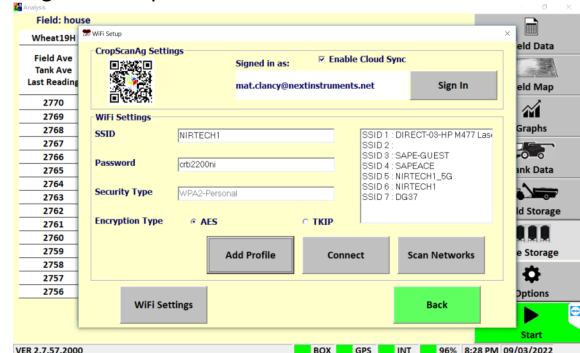

Figure 4.2. Setup—Wifi
- Press the Client Farm Field tick box as shown in figure 4.2 to activate Client Farm Field format.